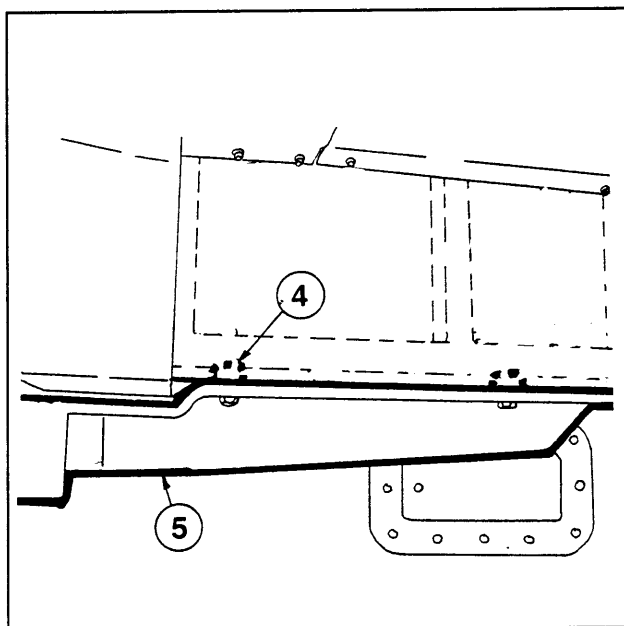
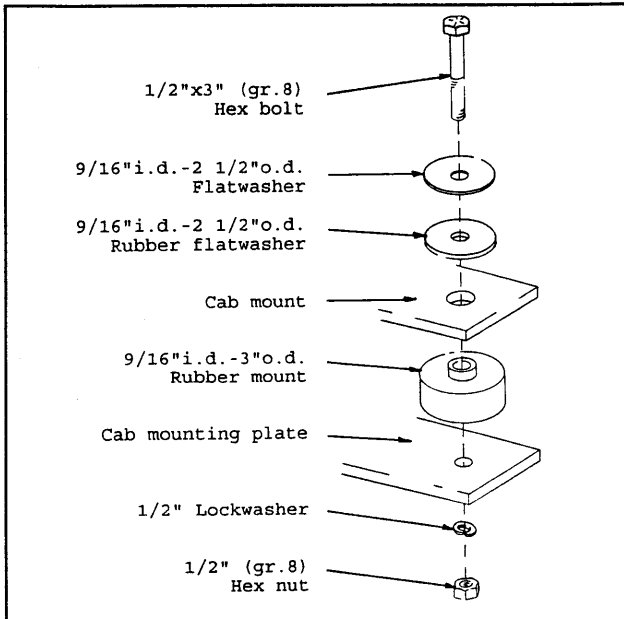

Figure 4
Figure 5
(see figure 4)
12. Take the remaining 5/8" spacer (4) and position it between the platform shield and frame. Loosely bolt the bracket, through the shield and spacer, to the frame using the 7/16"x3" hex bolt, hex nut, flatwasher, and lockwasher provided. (see figure 4)
13. Repeat step 12 for the right side with one exception. Use the 1/2" bracket spacer (6).
14. **NOW YOU ARE READY TO MOUNT THE ROPS.** Place one rubber mount on each ROPS mounting plate of the front and rear brackets. Lift the ROPS, using the lift bolts located near the roof, directly above the tractor. Slowly lower the ROPS until the ROPS mounts rest solidly on the rubber mounts. Then, bolt the ROPS snugly to the brackets as shown in figure 5.